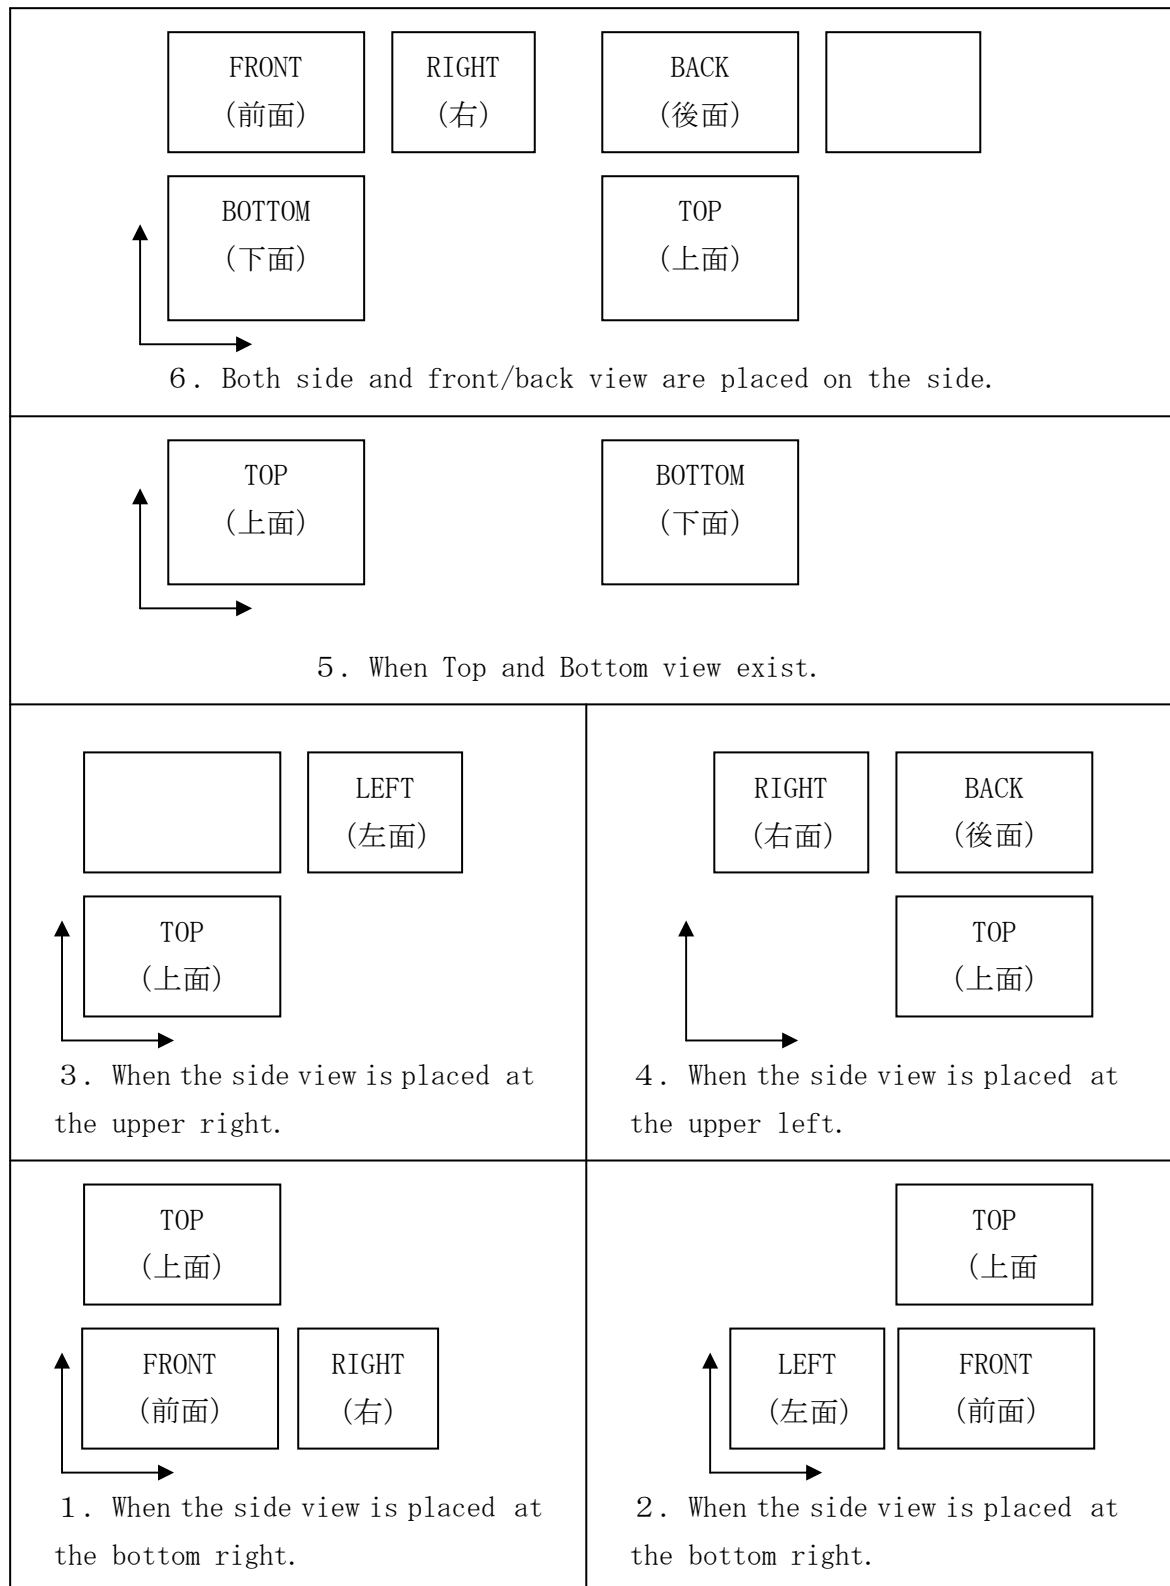

Figure 2-18. Layout and name of view on Third Angle Projection Method
- The first one is “The third angle projection method” to select three projection views on the design drawing. Figure 2-18 describes the projection layout on the third angle projection method; however FR system can only handle the layout number 1.
Depends on the position of side views in the drawing, user has to name each design surface in correspond with Figure 2-18 number 1 to 4.
It is important that the TOP and BOTTOM surface of the design are positioned on the left/right turn over relation as shown on Figure 2-18 number 5. When the views are positioned on top/bottom turn over relation; it is required that of the one projection view has to be rotated 180° later on.
Name each design surface as shown on Figure 2-18 number 6.